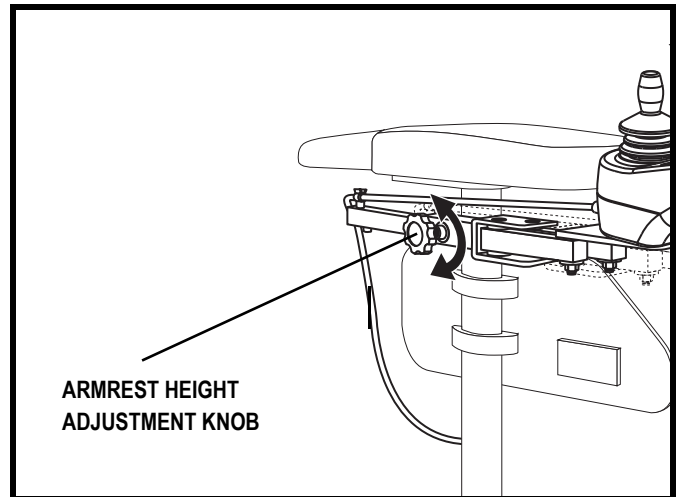

Figure 18. Armrest Top Height Adjustment
1. Loosen the armrest height adjustment knob by turning it anticlockwise. See figure 18.